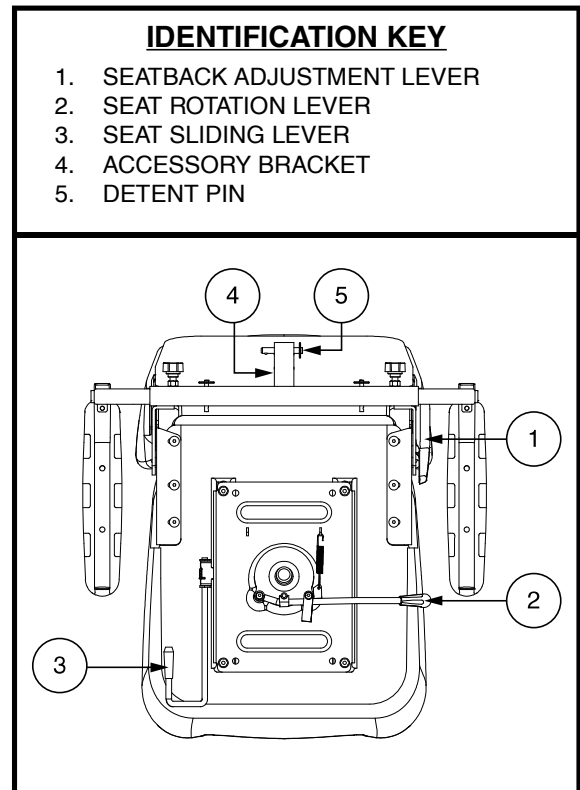

Figure 20. Seat Adjustments – Style B
If your scooter is equipped with a reclining seatback, you can adjust the seatback angle with the seatback adjustment lever. See **figure 20**.
1. Move the seat sliding lever (located at the lower left side of the seat) outward. See **figure 20**.
Armrest angle of your scooter can be adjusted upwards or downwards by turning the adjustment. See **figure 20**.
The rear-mounted accessory bracket allows you to attach a personal accessory such as a basket, walker holder, or oxygen tank to the back of your scooter. Use the detent pin to securely mount your item to the accessory bracket. See **figure 20**. See your authorized Dealer for details.